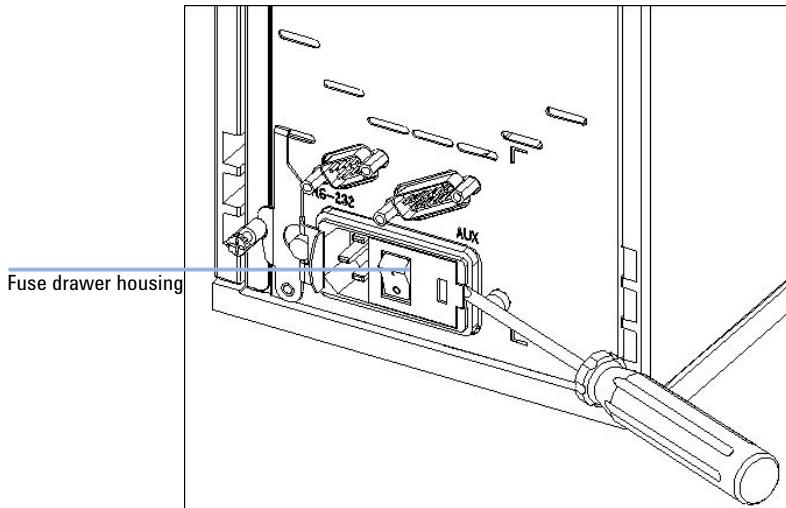

Figure 10 Remove power inlet housing
- 3 To access the fuse drawer, gently lift the outer plastic housing of the power inlet socket using a screw driver, see Figure 10 on page 145.